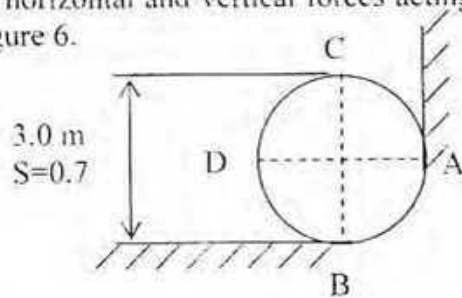

Figure 6
- b. Determine the horizontal and vertical forces acting on the curve surface CD on the cylinder in Figure 6. 6
- c. Determine the horizontal and vertical forces acting on the curve surface DB on the cylinder in Figure 6. 7
- d. What is the net vertical force acting on the cylinder shown in Figure 6, if it weighs 25.0 kN. Neglect friction. 5